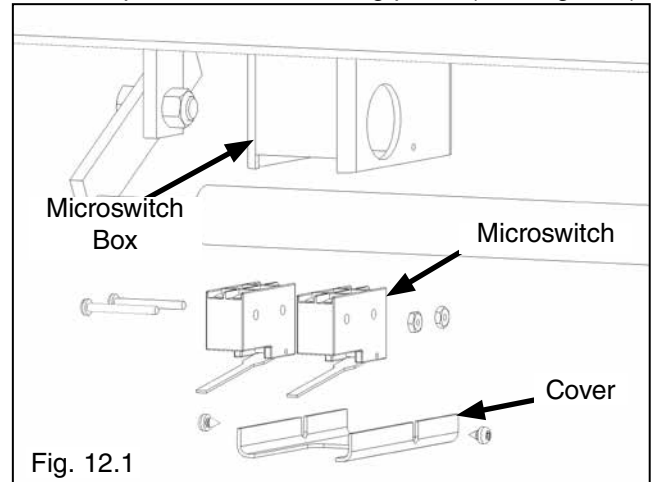

Fig. 12.1
1. Install the overhead Microswitch as shown below. Be sure to keep wire clear of moving parts. (See Fig.12.1)